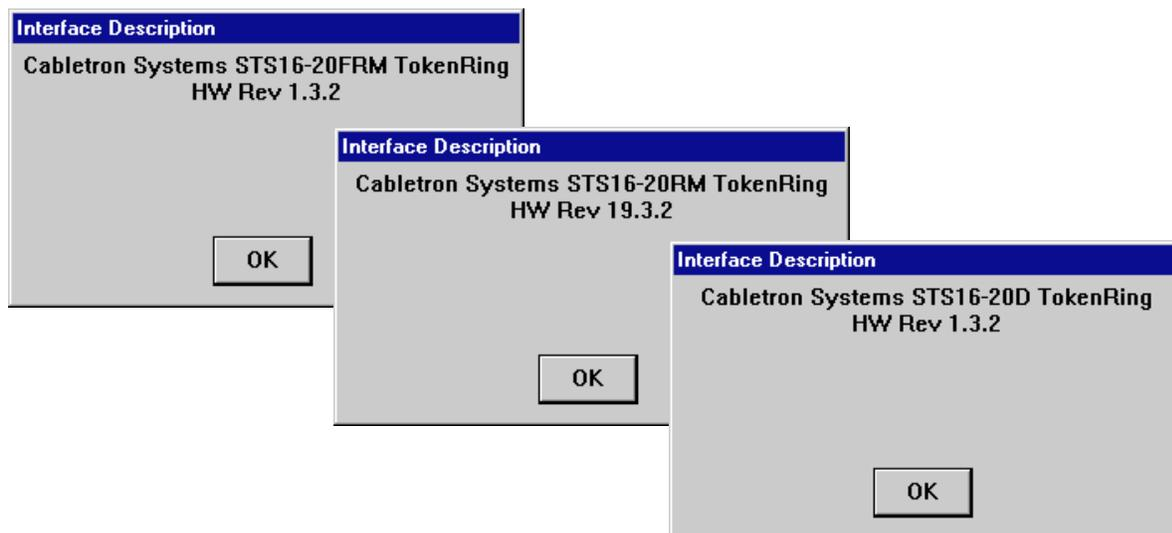

Figure 2-6. Sample Interface Description Windows
2. Click on **Description**; an Interface Description window, similar to the examples shown in Figure 2-6, will appear.